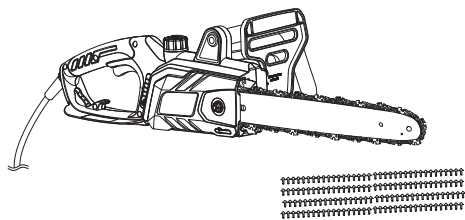

Fig. 10
1. Make sure the guide bar (13) and the saw chain (12) are in place when you check the oil delivery.
2. Start the product; keep it running at no load and check if the chain oil is delivered as shown in the figure (Figs.10, 11).